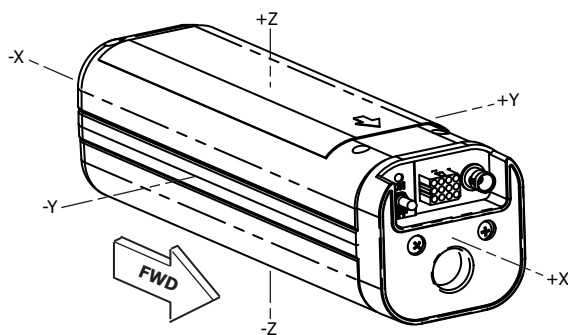

Figure 26. ELT Orthogonal Axes
- (1) Artex recommends installation of the C406-1HM ELT in helicopters. The C406-1HM ELT is equipped with a 5-axis G-switch module in addition to the usual primary G-switch, which is oriented to the direction of flight. See "Figure 26. ELT Orthogonal Axes".